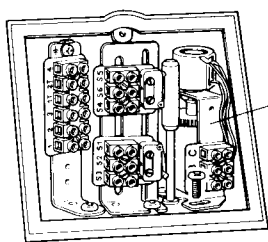
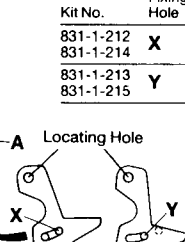

Fig.7
Fig.9
3. Fit auxiliary potentiometer kit bracket 'A' adjacent to drive gear 'B', on opposite side to conduit entry (fig.7). Use the locating hole to position bracket and appropriate fixing hole to suit potentiometer (fig.9). Do not mesh gear or fully tighten fixing screw at this stage.